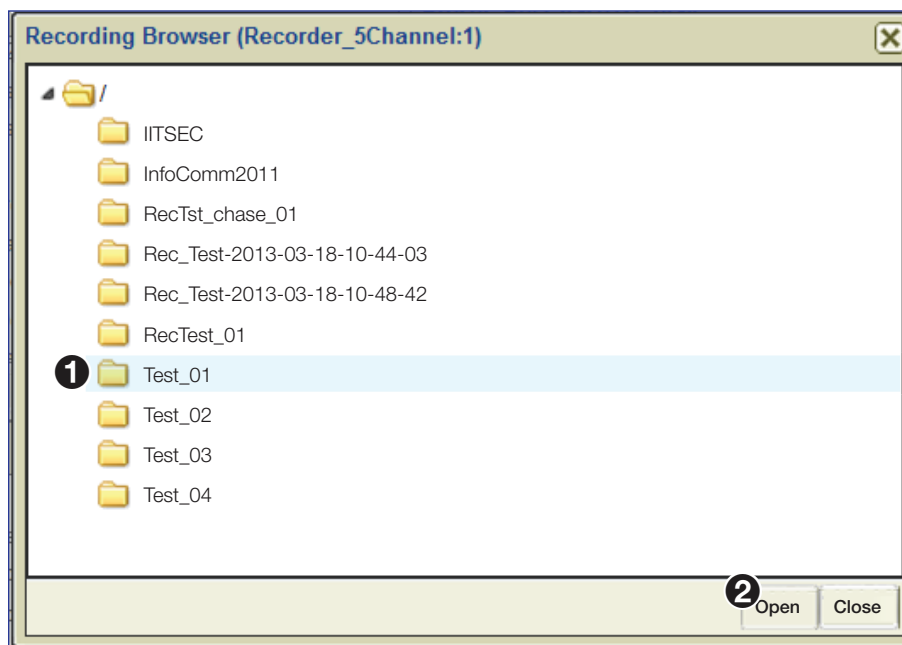

Figure 115. Recorder Browser, Directory Browsing
4. In the browser, click the directory containing the desired file (the directory is highlighted, see figure 115, ❶).
5. Click **Open** (see figure 115, ❷).